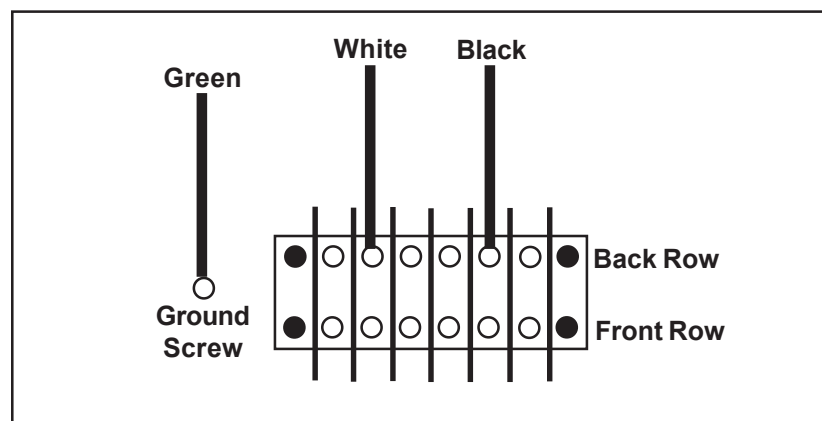

Figure 43. Auxiliary Power Cable Connections on Terminal Strip
4. Connect the three wires to the terminal strip and ground screw (Figure 43).